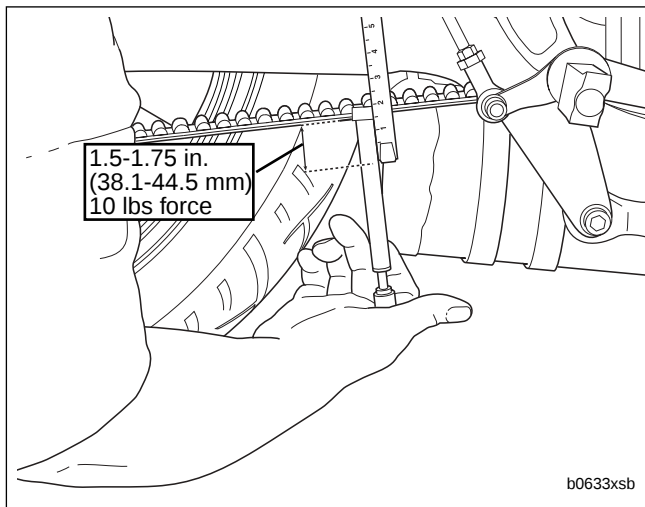

Figure 2-67. Belt Deflection
- b. See Figure 2-67. Check belt deflection.